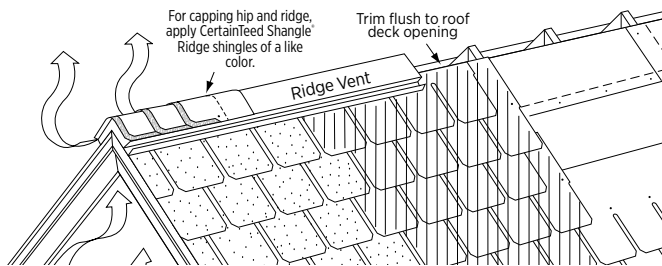

Figure 18-18: Installation of Shingle Ridge shingles on ridge vent.
8. If shingle-over ridge vents are being installed (see Figure 18-18), they must match the 12” (305 mm) width dimensions of the hip and ridge caps. Be sure to follow the ridge vent manufacturer’s instructions. To attach the cap shingles to the shingle-over ridge vent, use hot-dipped galvanized nails of sufficient length to penetrate 3/4” (19 mm) into, or through, the deck.